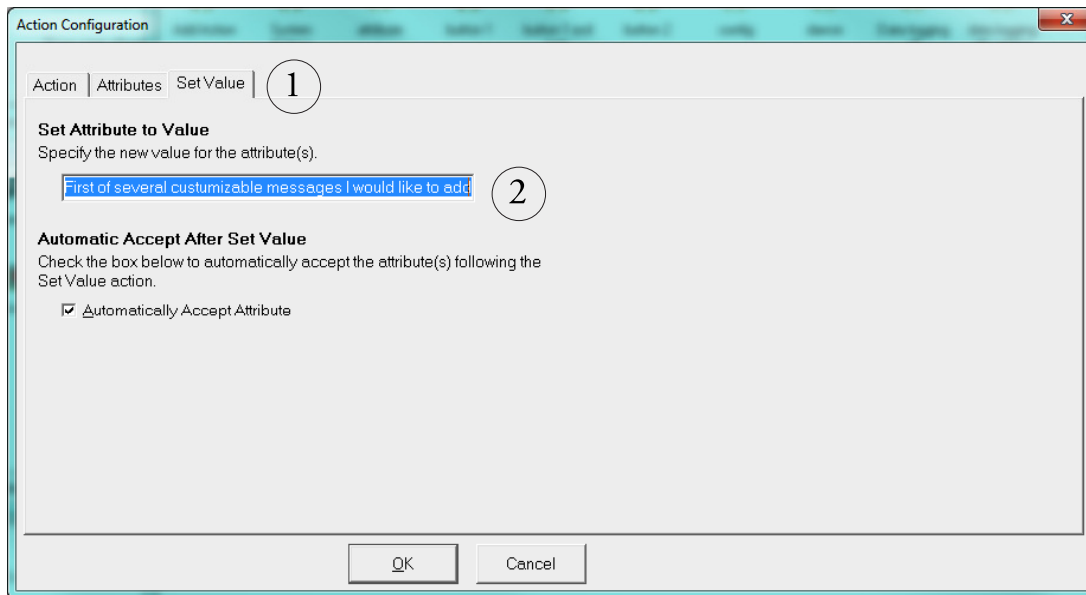

Figure 34. Customizable Message.
- 3.6.1 Enter a messages for **each** action that you define (*Part 2 in Figure 34*).